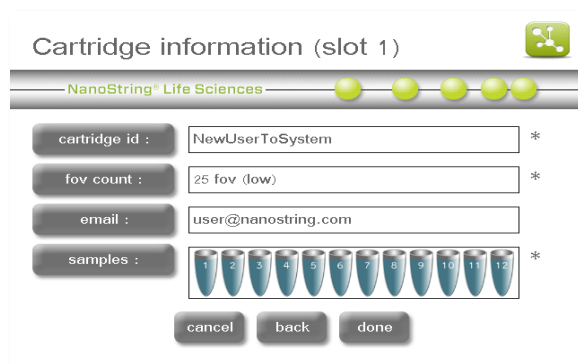

Figure 87: The 'Cartridge Information' screen, displaying details for slot 1.
5. Select the CDF to be used and press **next**. The 'Cartridge information' screen will appear (**Figure 87**).